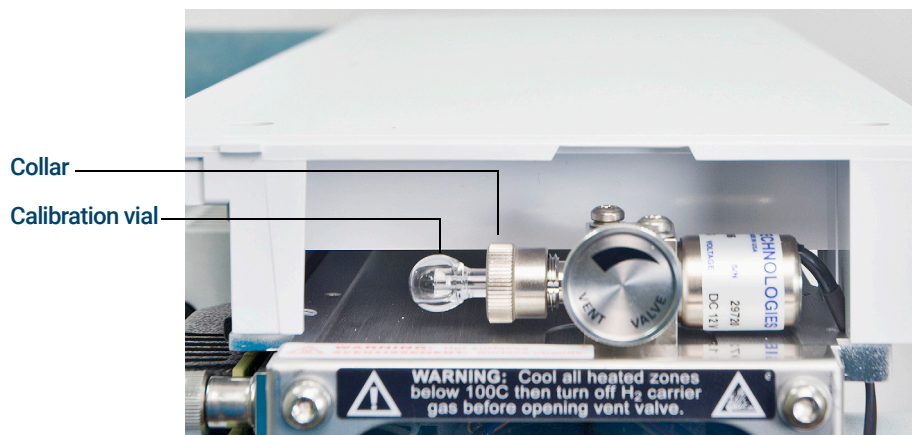

Figure 17. Removing the EI calibration vial
- 5 Loosen the calibration vial collar by turning it counterclockwise. (See **Figure 17**.) Do not remove the collar.
- 3 Loosen the collar, and remove the calibration vial. (See **Figure 17** on page 120.) Just loosen the collar, do not remove it.
- 1 Remove the old valve assembly. (See **“To Remove the EI Calibration and Vent Valve Assembly”** on page 123 and **Figure 17** on page 120.)